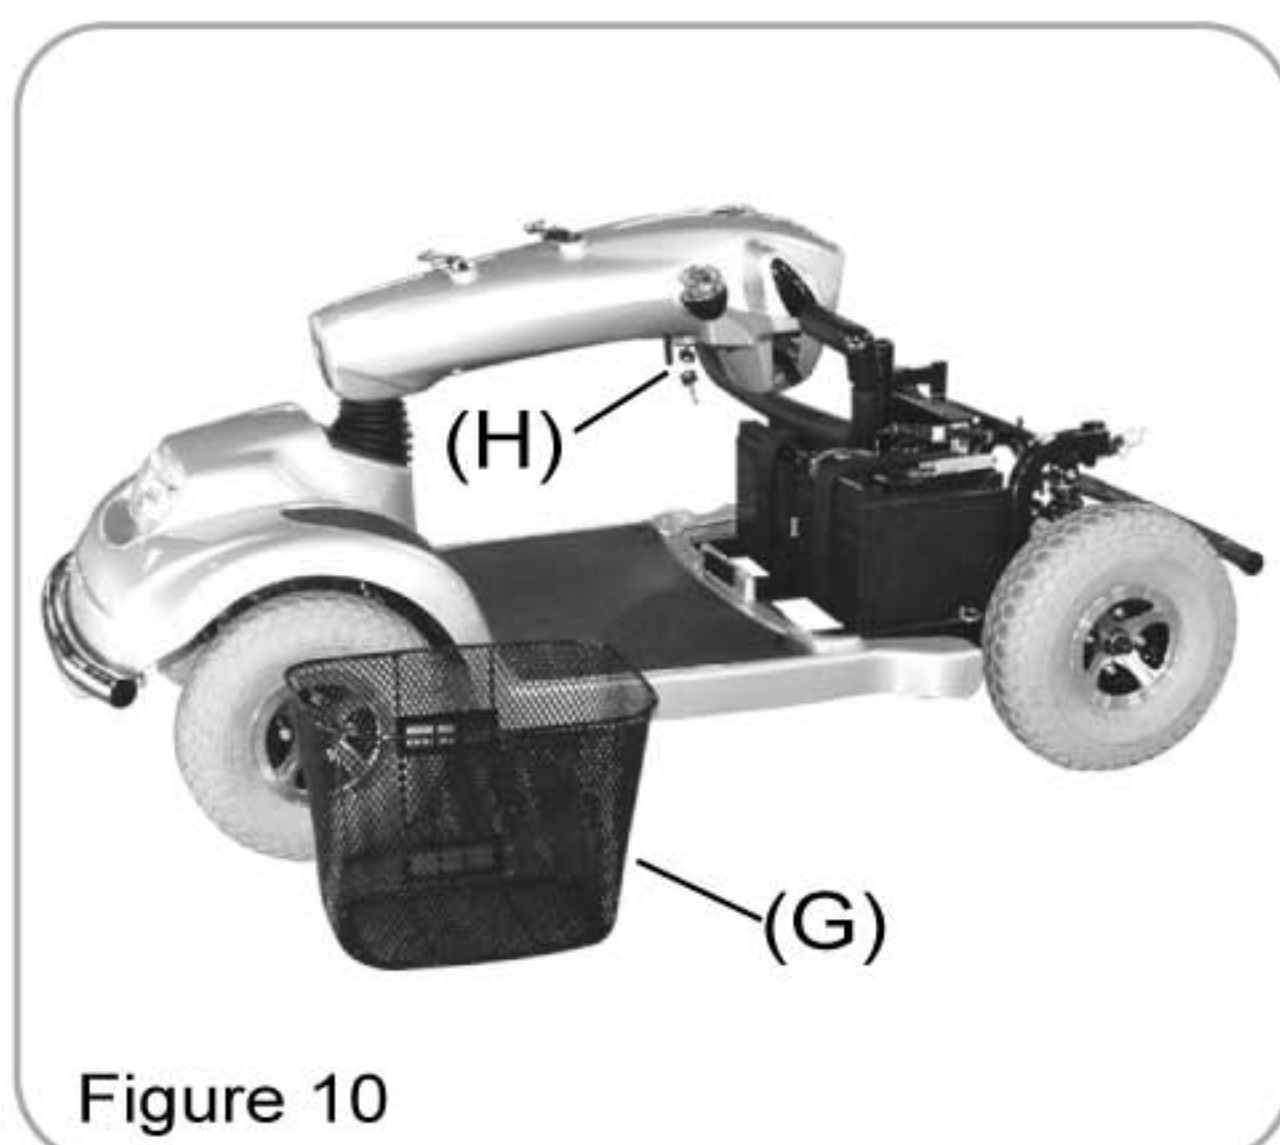

Figure 10
Remove front basket (G) and lower the tiller by pulling tiller adjustment (H) and push tiller down. (See Fig. 10)